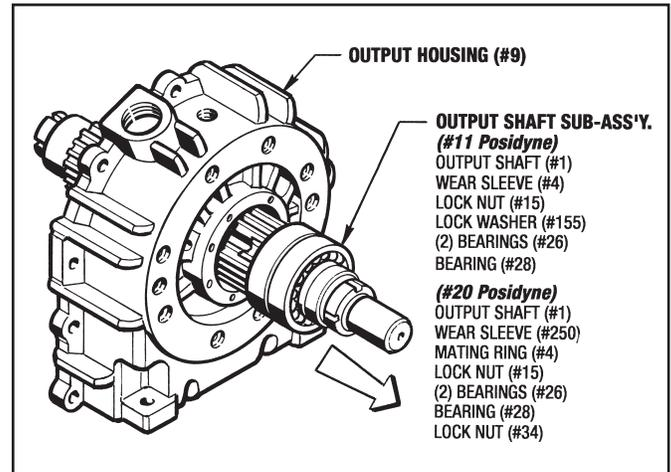

Figure 7.8 - Removing the Output Shaft
1. With a mallet tap the Output Shaft (#1) out of the Output Housing as shown in Figure 7.8.